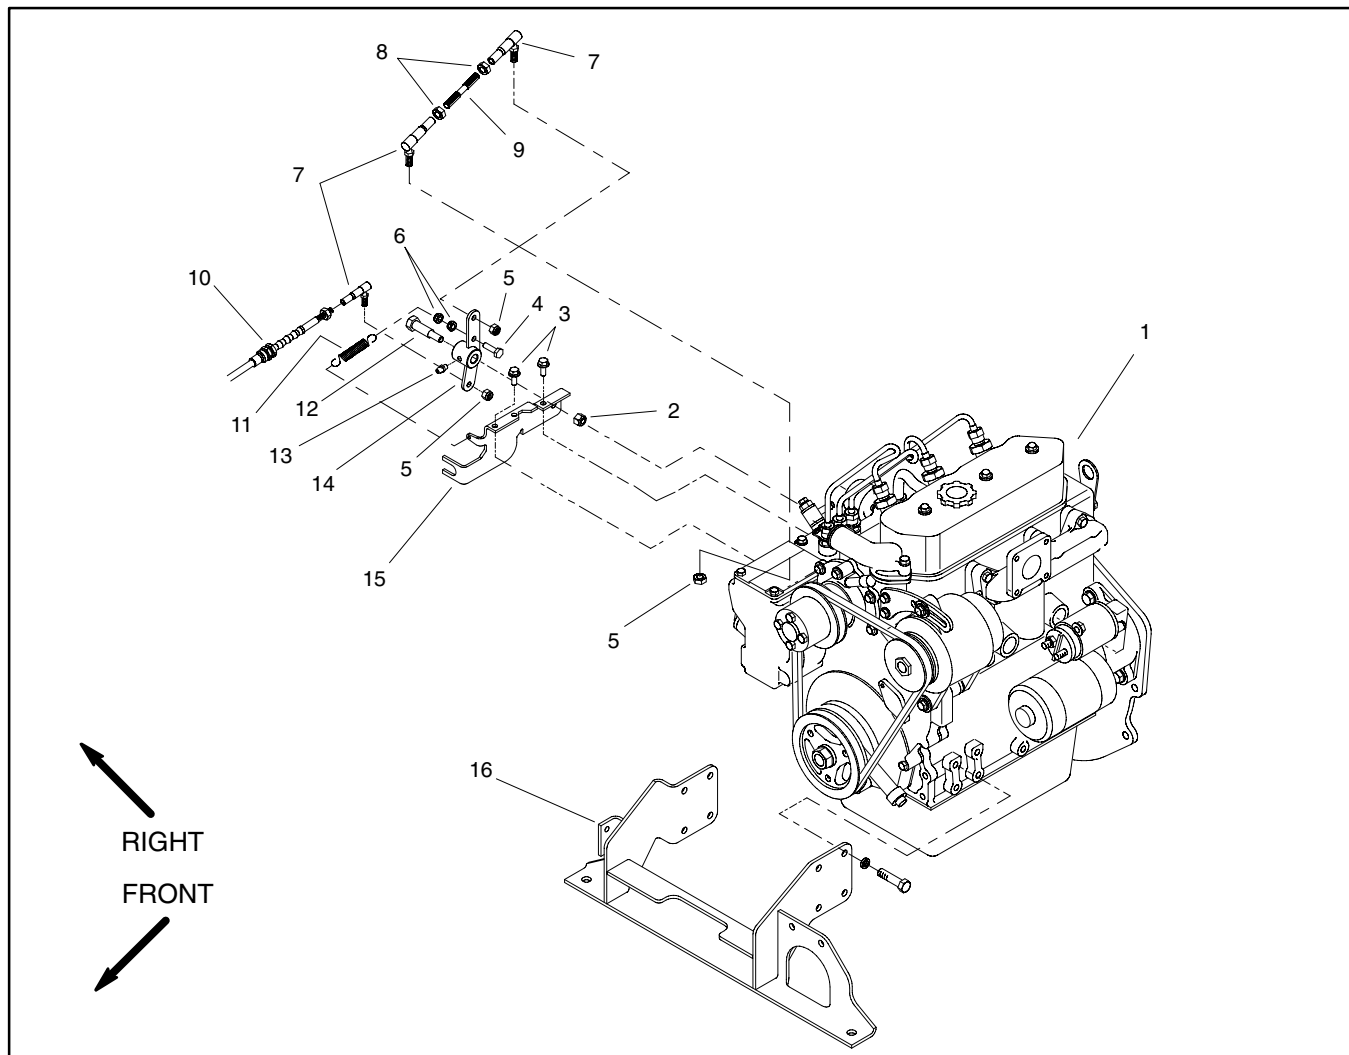

Figure 14
Disassembly (Fig. 14)
1. Remove throttle bracket components from engine as needed using Figure 14 as a guide.
Assembly (Fig. 14)
1. Install removed throttle bracket components to engine using Figure 14 as a guide.